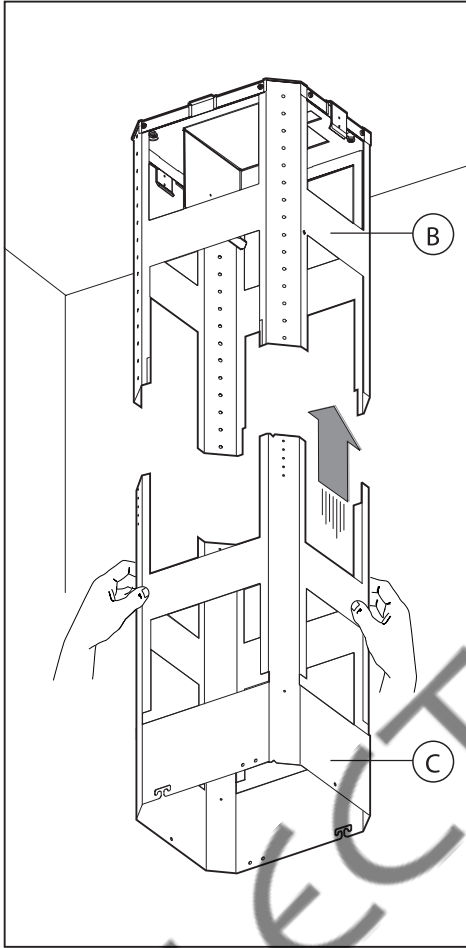
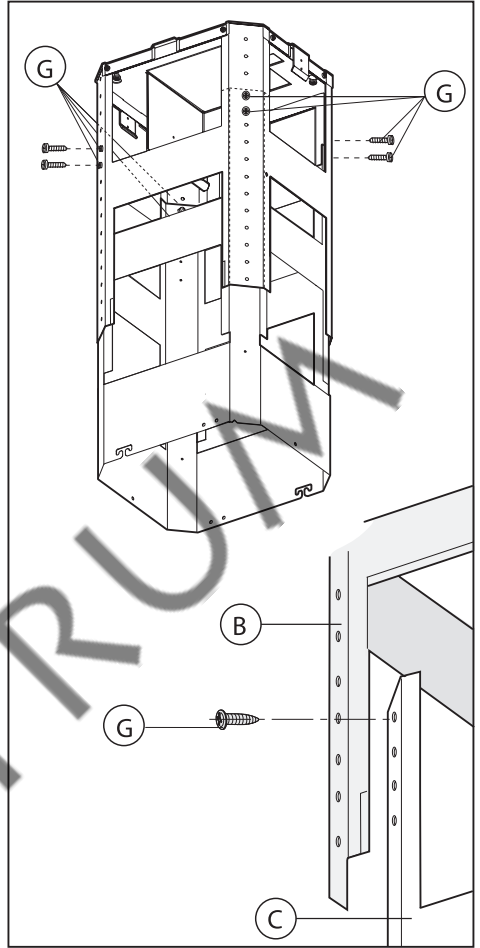

Fig.5
Fig.6
- Take the lower part of the telescopic structure **C** and insert it into the upper structure **B** (Fig.5). Adjust the height by referring to the amounts indicated in (Fig.15) and block it using the 8 screws **G** that are supplied (Fig.6).